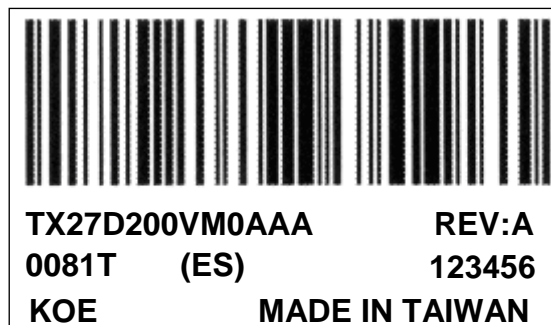

Fig. 10.2
3) The location of the lot mark is on the back of the display shown in Fig. 10.2